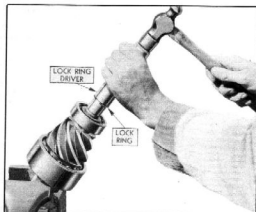

Fig. 24—Rear Pinion Bearing Lock Ring Installer
2. Press the rear bearing on the end of the shaft with the chamfered side of the inner race towards the pinion. Install the lock ring, using the lock ring installer J-1364, Fig. 24.